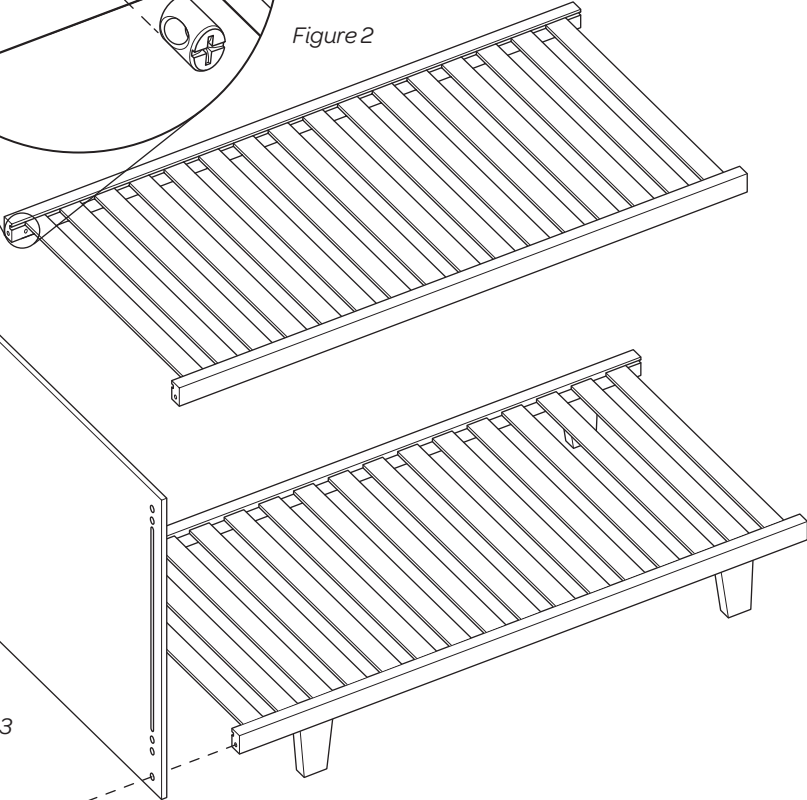

Figure 3
- Step 1** Insert bolts in the lowest bolt holes of the bed end (Fig.3) and align with the holes in the ends of the carrier rails on the bed base. Ensure the face which has the coving in the mesh slot is facing outwards.
**Step 2** With the help of another person, attach the bed end to the bed base by threading the bolts into the nuts in the carrier rail (Fig.3). Leave bolts slightly loose until assembly is complete. To help the bolts locate the nut, support the weight of the bed end while you thread the bolt into the hole.